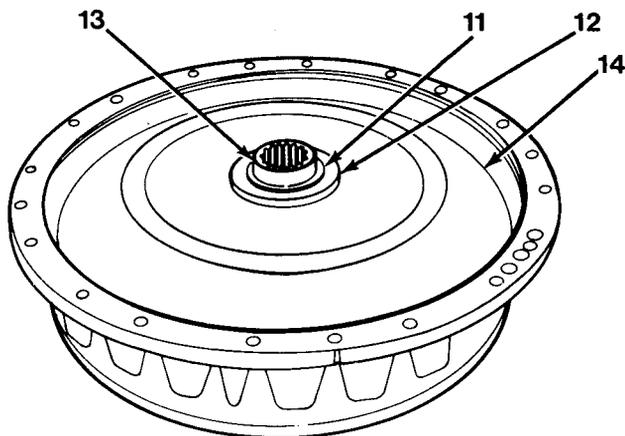
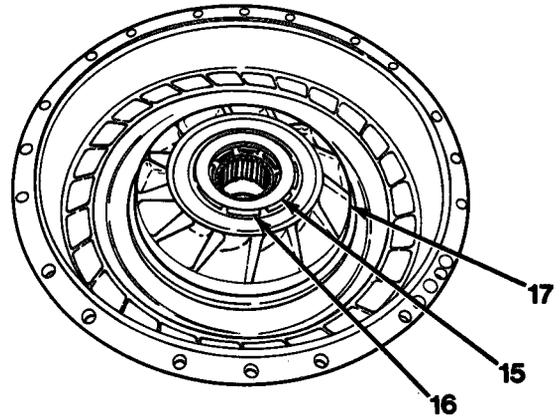

Figure 11-3
Figure 11-4
4. Remove thrust race (11), thrust bearing (12) and thrust race (11, Figure 11-3).
5. Remove turbine hub (13) and turbine (14).
6. Remove thrust race (15), thrust bearing (16) and thrust race (15, Figure 11-4).
7. Remove stator assembly (17).